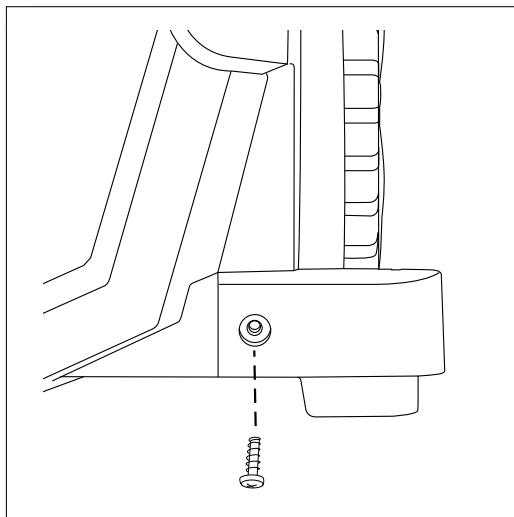

Fig. 3
- Slip tab into slot and screw the stabilizer foot on the bottom portion of the unit on the side of the power cord. **(Fig. 3)**